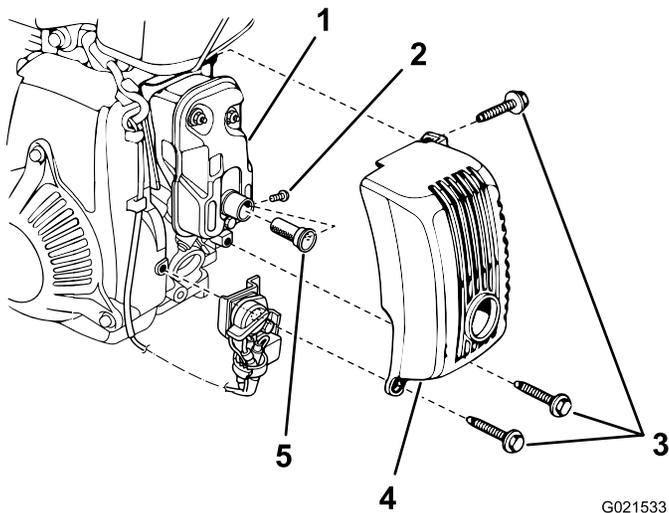

Figure 28
1. Remove the 3 bolts (5 mm), and remove the muffler protector (Figure 28).
2. Remove special screw from the spark arrester, and remove the spark arrester from the muffler (Figure 28).